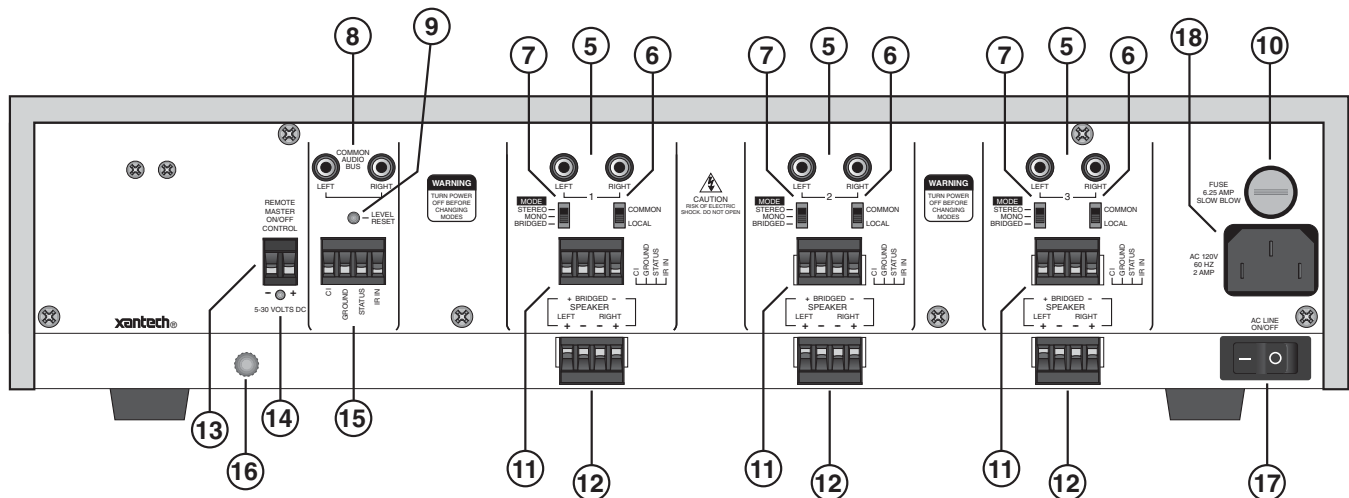

Figure 3 – PA635 Rear Panel – Features and Functions
NOTE: This command is inhibited automatically when the CI terminal is driven high with an external control voltage. Refer also to items 9 and 11, Fig. 3.
It may be necessary to change the PA635 amplifier pairs to different code groups if you wish to address each pair individually from the COMMON IR BUS (item #15, Fig. 3) or an external common IR bus network when using other Xantech PA635's in large systems, to avoid mutual interaction.